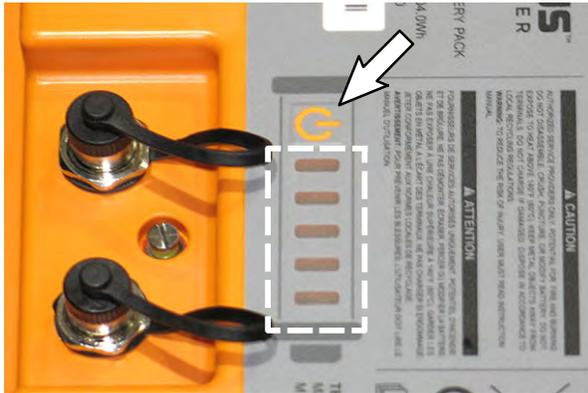

FIG. 47
45. Press and hold the battery power button for 5 seconds to turn each of the lithium batteries (1) on. The battery charge indicator bars are illuminated when battery is on. (Fig. 47)